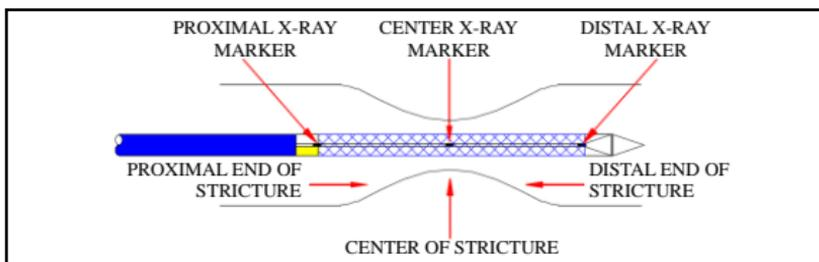

Figure 4
- e) When the center X-ray marker reaches the center of target stricture, continue pulling back on the Y-connector until the stent is fully deployed. (See figure 4, 5)